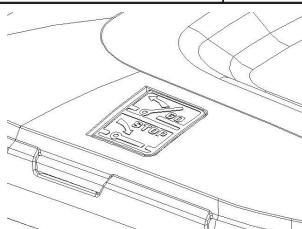

Fig. 3D
- If the catcher is full, the indicator collapses; once this happens, stop moving immediately and empty the catcher, make sure it is clean and ensure its meshwork is ventilated. (Fig. 3D)